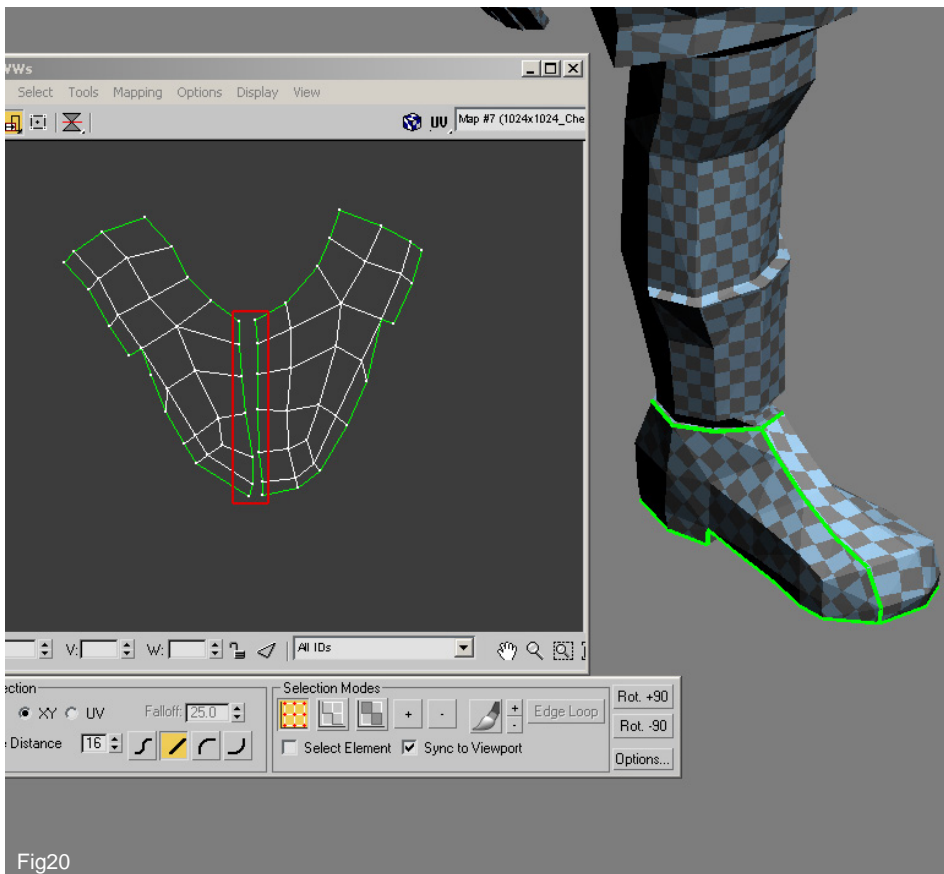

Fig20
20. When both sides have been mapped unwrap the whole foot except the sole and then rotate and move the two respective sections together as seen in Fig 20. Weld the two edges of verts within the red rectangle to close the seam line seen running down the top of the foot on the right. Then tweak the vert positions to minimize any obvious distortion.